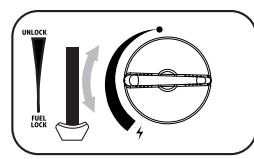

fig. 5
6. Adjust the control knob to the required position (fig.5) Never set the cartridge lever (6) to the “UNLOCK” position during use!